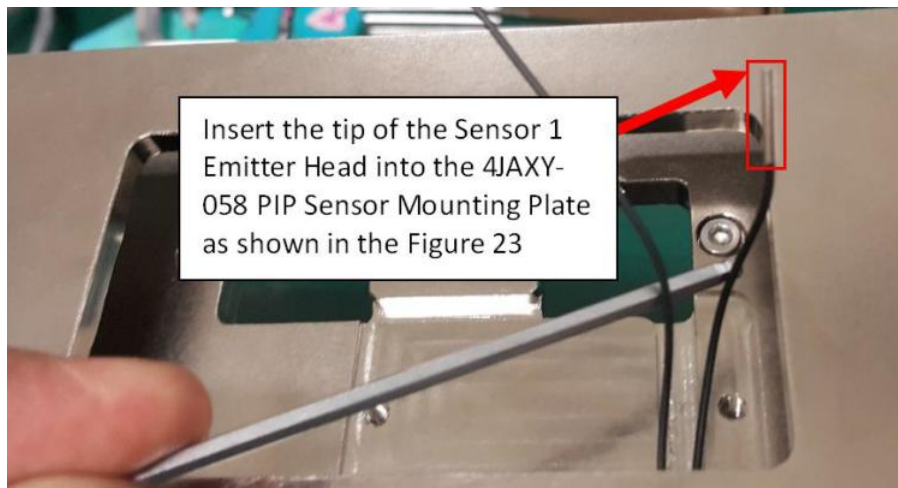
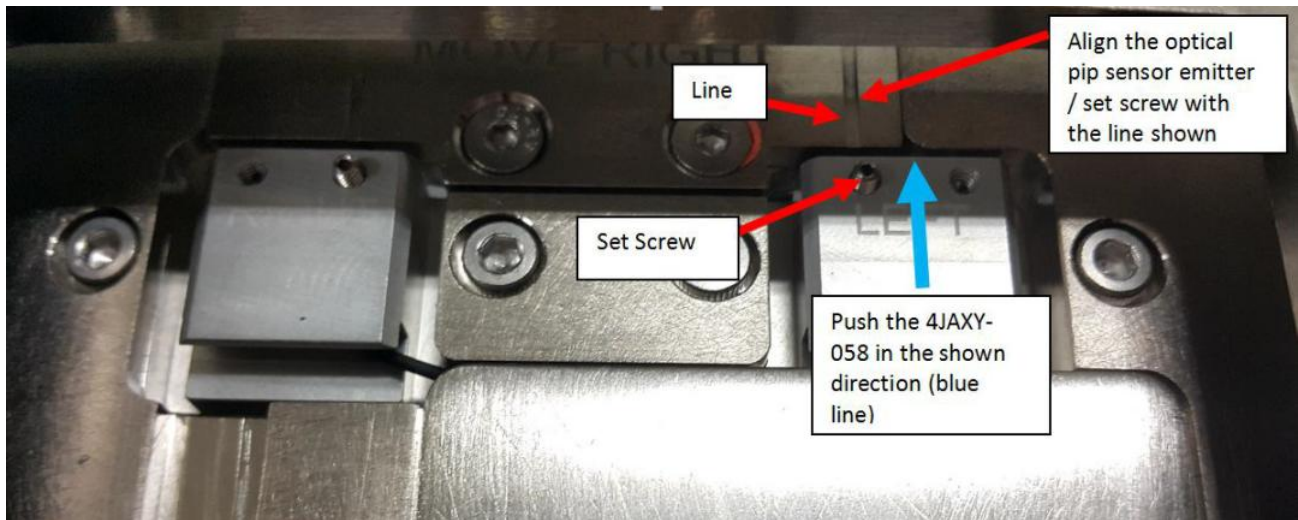

Figure 22 Sensor Emitter Head
Figure 25 4JAXY-058
2. For emitter installation, Gently insert emitter sensor head into 4JAXY-058 (PIP Sensor Mounting Plate 2) as shown from Figure 22 to Figure 25
3. Push 4JAXY-058 PIP Sensor Mounting Plate 2 to maximum direction (Blue Arrow) and align with the line as shown in the Figure 25.